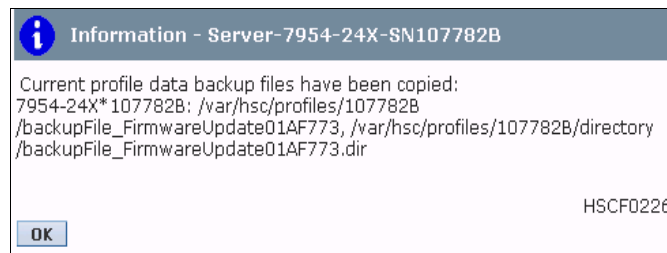

Figure 7-129 Profile data backup0
14. The update process copies the profile backup files, as shown in Figure 7-129. Click **OK** to continue.